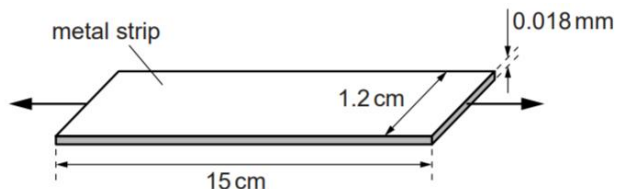

Fig. 8.2
- Fig 8.2 shows a metal strip pulled from its ends until it breaks.